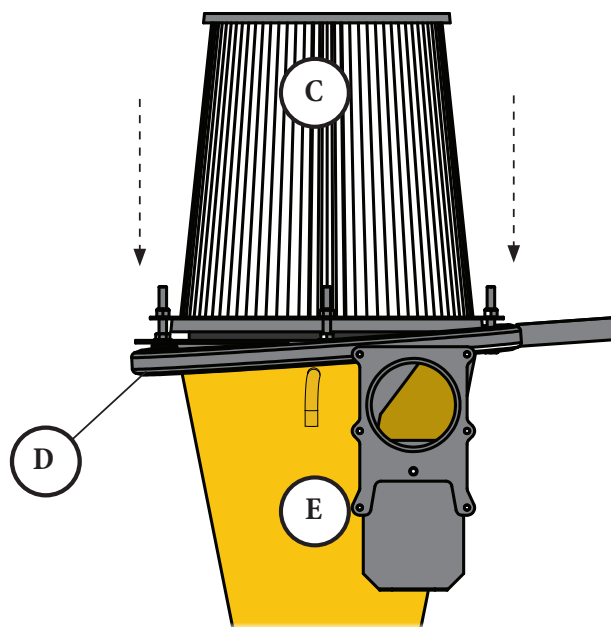

FIG. 12
Open and slide the Ring Clamp (D) over the assembly so that it rests outside the upper flange of the Cyclone (E) [FIG. 12].